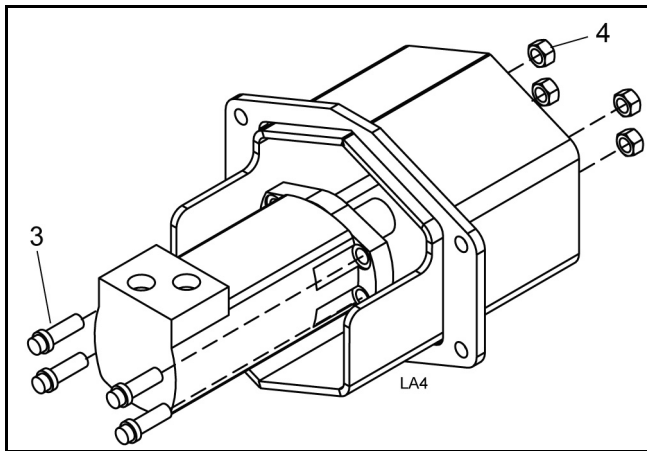
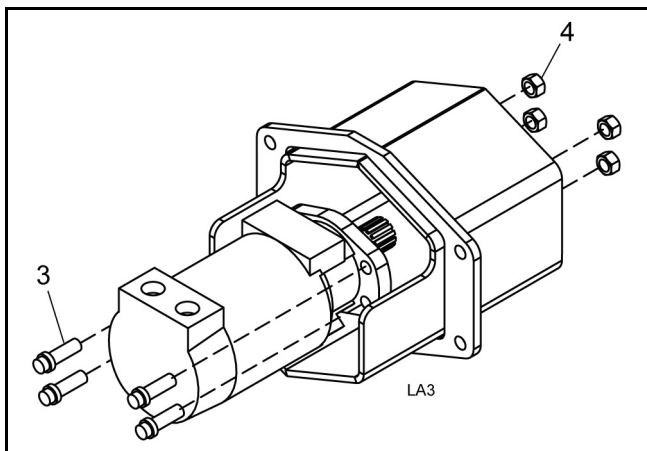

Figure 14. TL52 and TL73
Figure 16. TL84
Install four 1/2" - 20 x 1-1/2" twelve-point bolts (3) and four 1/2" - 20 (4) nuts as shown in Figure 14 and Figure 16. While using an extension and 1/2" twelve-point socket, hold bolts from the inside and torque nuts to 85 lbs-ft. (115 N-m).